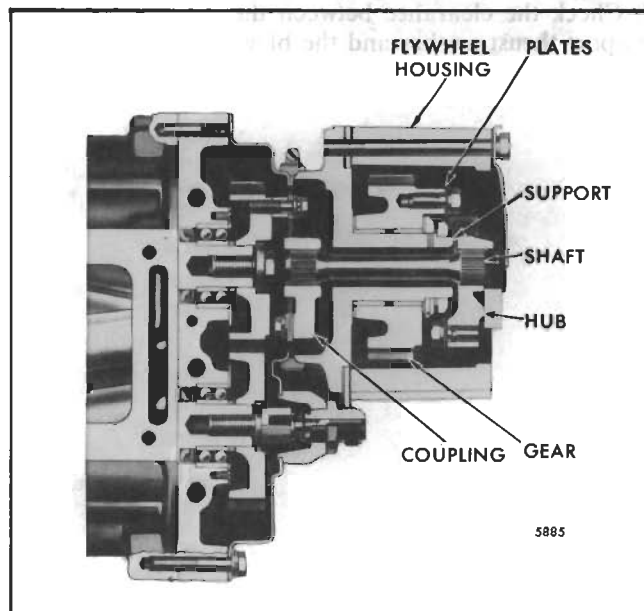

Fig. 6 - Blower Drive Components
**NOTE:** To reduce spline wear, the blower drive shafts, blower drive couplings and accessory drive hubs (Fig. 6) have been replaced by specially heat treated parts, effective with engines 6VF-21492 and 8VF-19187. It is recommended that all of the subject components be replaced (including the flexible plates) when any one or more of the parts require replacement on engines prior to the above serial numbers.